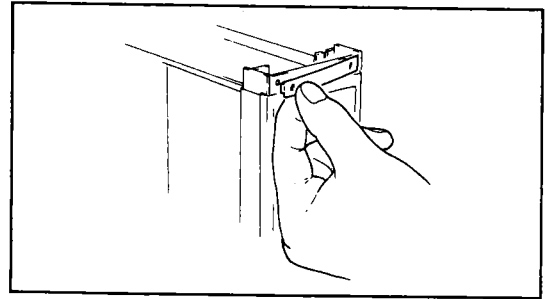

Figure 6-8. Attaching the Nameplate.
- (2) Attach the nameplate (See Figure 6-8).